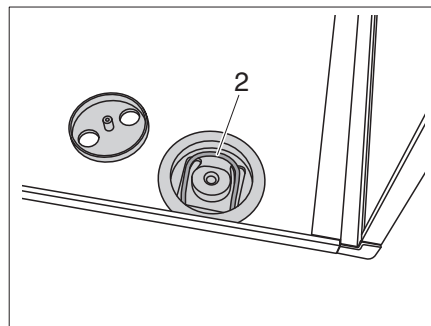

Fig. 27 Fold the bar upwards
- Fold the bar (Fig. 27,2) upwards.